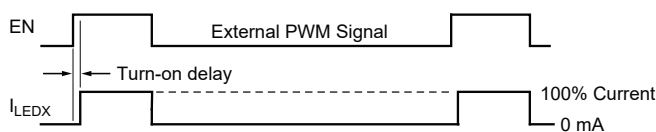

Figure 2. Timing diagram of external PWM signal and LED current
- PWM dimming using the EN pin. PWM dimming is performed by applying an external PWM signal on the EN pin. When the EN pin is pulled high, the A8511 turns on and all enabled LEDs sink 100% current. The sequence is shown in figure 2. For optimal accuracy, the external PWM signal should be in the range 100 to 300 Hz. The slight delay between PWM signal and the LED current causes an error. To compensate for the error, a small turn-on delay should be added to the PWM signal as shown on page 10 of the Performance Characteristics section. When EN is pulled low, the boost converter and LED sinks are turned off. The compensation (COMP) pin is floated, and critical internal circuits are kept active. If EN is pulled low for more than tPWML, the device enters shutdown mode and clears all internal fault registers. As an example, for a 2 MHz clock, the maximum PWM low period while avoiding shutdown is 65 ms.